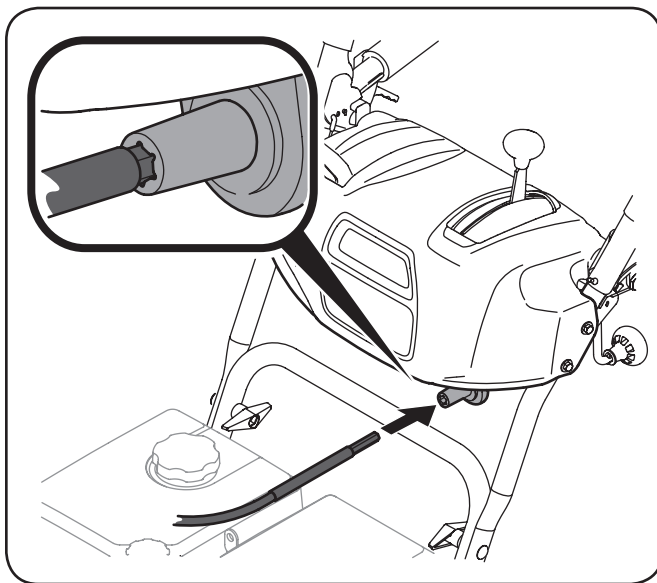

Figure 3-18
- Insert the flex shaft into the chute control rod coupling under the dash panel. See Figure 3-18.